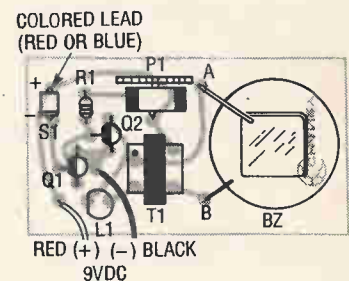

Figure 2. Follow this parts-placement diagram carefully when assembling the Infrared Detector. Be sure to face the flat edges of Q1, Q2, and L1 as shown.
1. Before you begin, make sure that you have on hand all the necessary components, as noted in the Parts List. Use only 60/40 rosin-core solder. Assemble the Infrared Detector according to the parts-placement diagram in Figure 2 and the schematic.